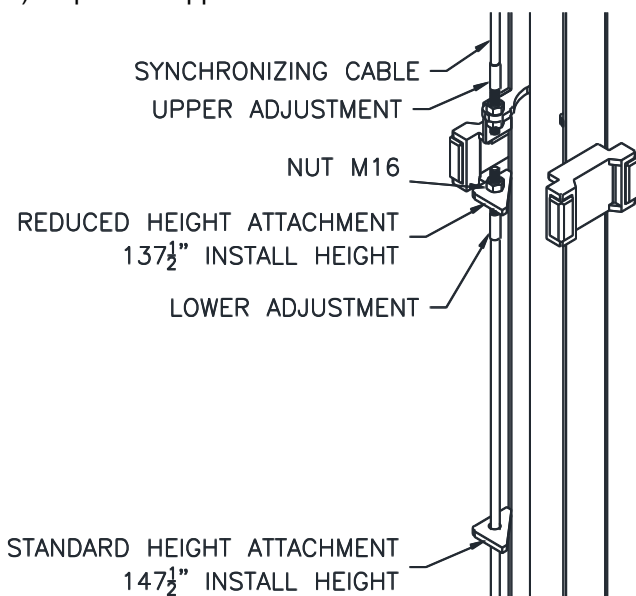

Fig. 6 – Synchronizing Cables
- 19) Route cable up and over sheave in overhead. Follow across to other sheave on opposite column. Route down through carriage to sheave in bottom of column. Route under sheave and up to cable attachment. Lower attachment point is used for Standard Height Installation (147 1/2") and the Upper attachment point is used for Reduced Height Installation (137 1/2"). Use **Fig. 6** for proper attachment.